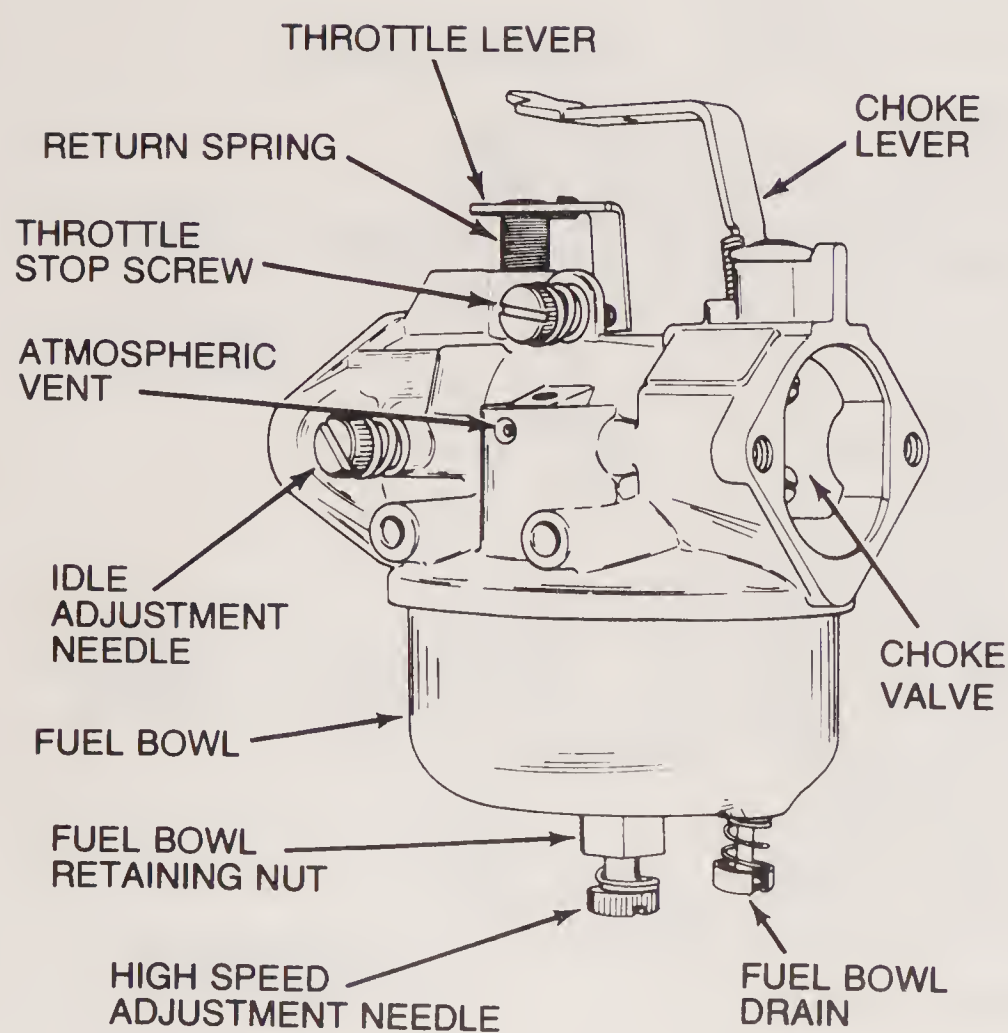

FIGURE 8-10
few exceptions all carburetors have the following external adjustments: (1) an idle mixture adjustment, (2) an idle speed adjustment, and (3) a main fuel mixture (high-speed) adjustment (Figure 8-10). The float level is adjustable on a float-type carburetor, but once the setting is correct there should be no reason to change it.
Always check to make sure the trouble exists in the carburetor before removing it. Unless foreign matter gets into the carburetor, about the only things that should need to be done would be to re-adjust the idle speed, idle mixture, or fuel mixture. Some float carburetors have a bowl drain valve on the bottom of the float bowl. Press the drain valve occasionally before servicing, and let a small amount of fuel flow out. Catch the fuel in a container. If water and/or dirt comes out, you may safely assume that water or dirt is in the system. The adjustments and bowl drain are shown on the carburetor in Figure 8-10 (a commonly used side mounted carburetor).